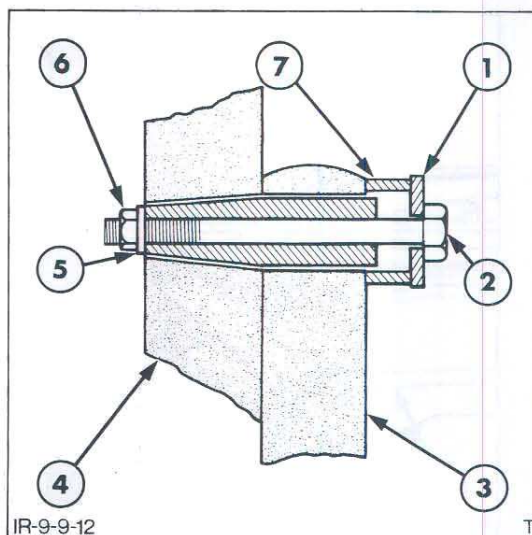

Figure 12
12. Remove each loader arm pivot pin using a suitable spacer, washer and the pivot pin bolt as shown in Figure 12. Tighten the nut and strike the bolt head with a copper faced hammer to free the pivot pin.